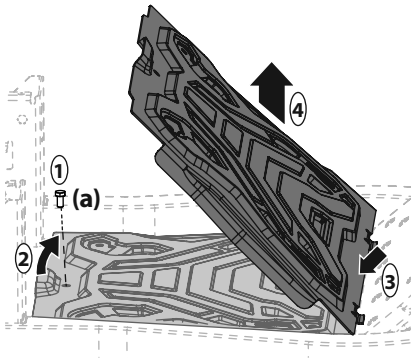

Figure 31
2. Carefully lift the rear of the floor panel. See 2 in Figure 31.
3. Slide the floor panel rearward to free the front of the floor panel. See 3 in Figure 31.
4. Lift it off the tractor. See 4 in Figure 31.